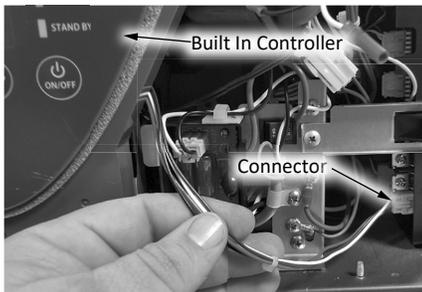

Figure 72: Built-in controller removal.
4 Locate the wire on the built-in controller and follow it to the computer board. Carefully disconnect the built-in controller from the computer board. Reference the wiring diagram on page 28 or in the maintenance sheet. Set the built-in controller aside for re-installation. See Figure 72.
- 8 Attach the built-in controller to the front of the water heater. Reconnect the wire from the built-in controller to the computer board. See Figure 72.